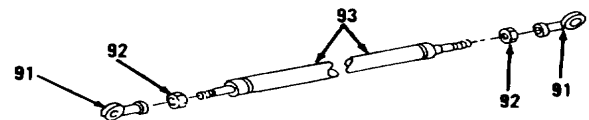

Figure 3-167.
- 66. Loosen two nuts (92, Figure 3-167).
- 67. Remove two rod ends (91) and nuts (92) from link (93).